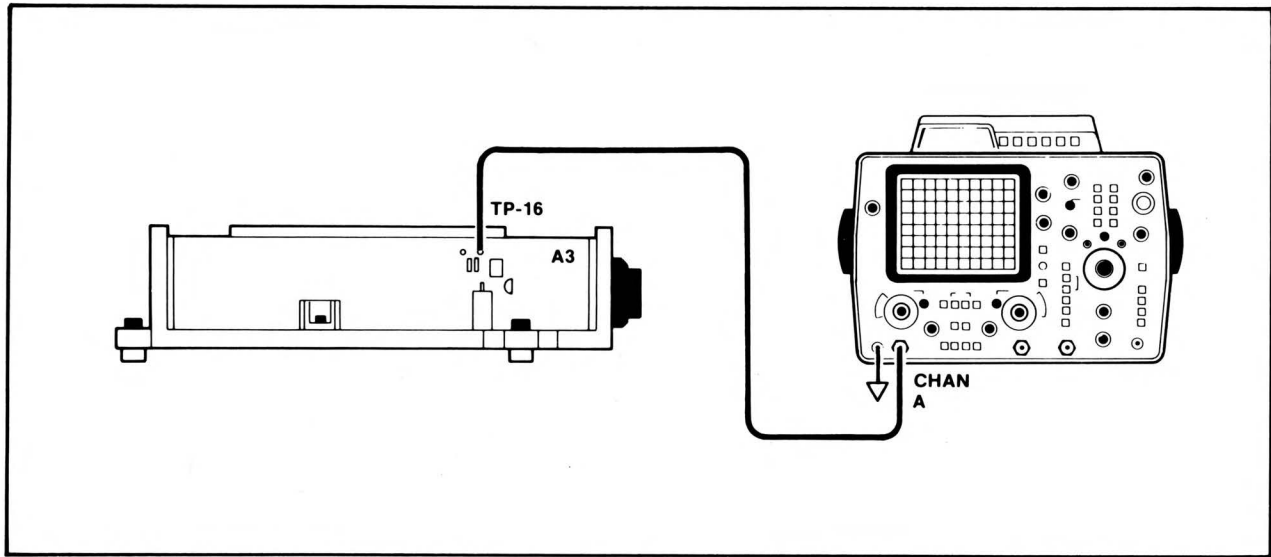

Figure 8-11. Quick Tuning Check, Test Setup
- Connect a dc-coupled oscilloscope to TP16 on A3 as shown in *Figure 8-11*. Also see *Figure 8-18* for test point locations.